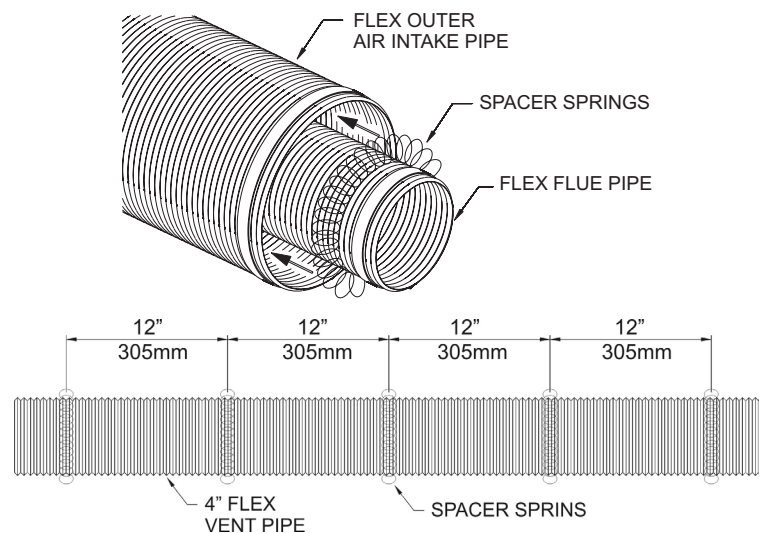

Figure 35
9. Install the spring spacers provided around the 4" diameter flex flue at 1 foot intervals, then slide the flue pipe with spacers into the 7" diameter outer flex vent pipe. Make sure the springs are spaced evenly starting at 12 inches from the fireplace collar. **See Figure 35.**